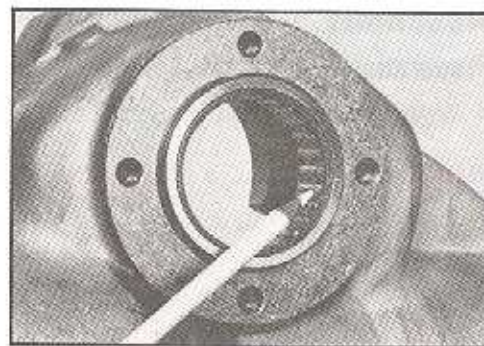

Figure 99
7. Inspect the housing bearing (40) and the side cover bearing for brinelling or spalling. SEE FIGURES 99 & 100. If either condition exists, replace the damaged housing bearing (40). For the housing bearing, follow disassembly step 41 and assembly step 1, pages 32 and 36. If the side cover bearing is damaged, replace side cover assembly (38).